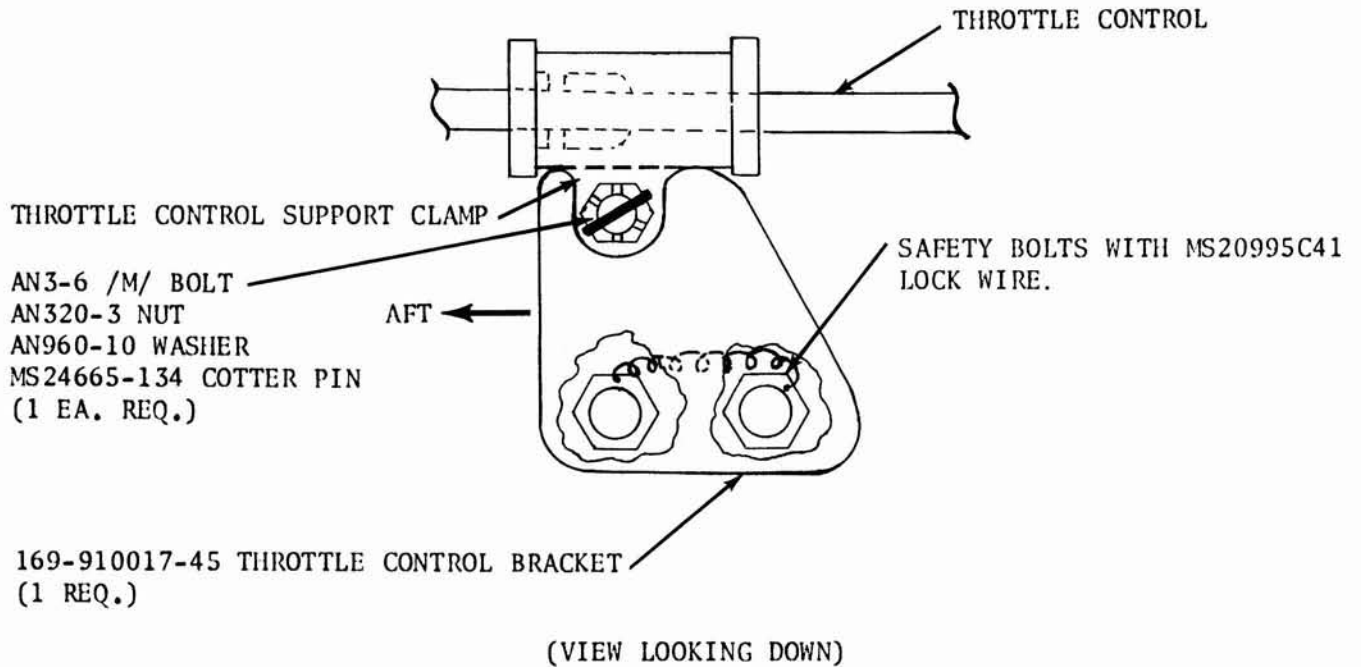

Figure 1. Installation of 169-910017-45 Throttle Control Bracket
5. Replace the 169-910017-23 bracket with a 169-910017-45 bracket. (Refer to Figure 1.) Place the edge of the -45 bracket between the ears of the throttle control support clamp and secure the clamp to the -45 bracket with an AN3-6 /M/ bolt (head of bolt down), an AN320-3 nut, an AN960-10 washer, and an MS24665-134 cotter pin. Secure the -45 bracket to the bottom of the crankcase with the existing attaching parts, and safety the two attaching bolts with MS20995C41 lock wire.